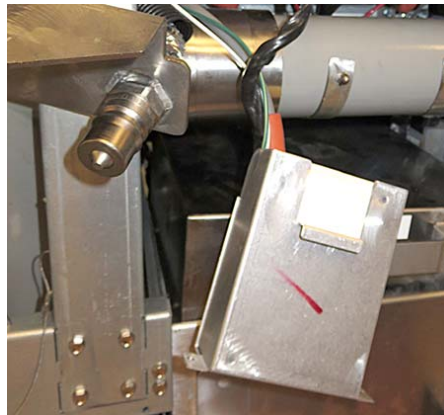

Figure 9
9. Let the module hang down out of the way (see Figure 9).